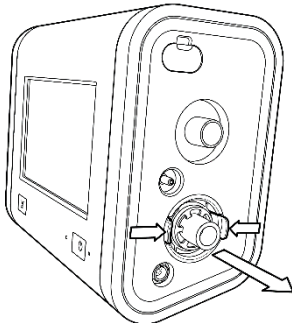
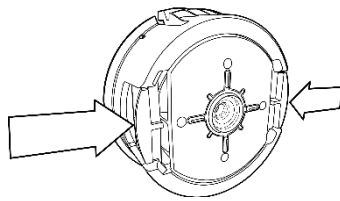

Figure 2
Figure 3
2. Open the valve: Squeeze the two tabs (Figure 2) and pull apart (Figure 3).